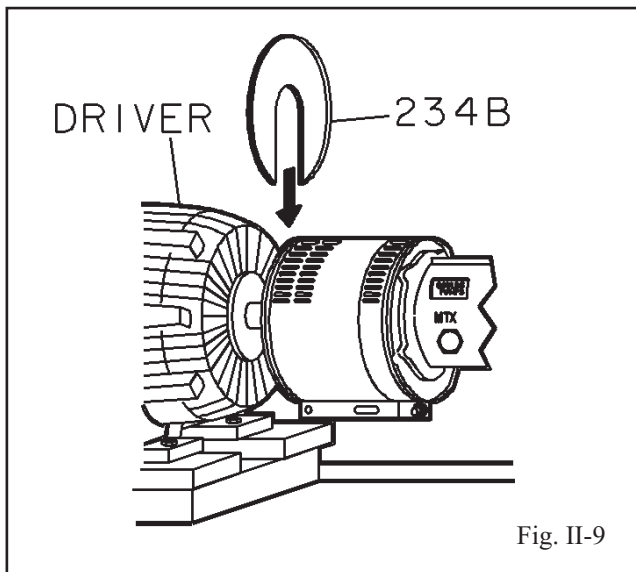

Fig. II-9
- Place end plate (driver end) over motor shaft as shown in Fig. II-9. Locate the end plate in the annular groove at the rear of the coupling guard half (driver end) and secure with a bolt, nut, and two (2) washers through the round hole at the rear of the guard half. Finger tighten only.
2. Remove nut, bolt, and washers from coupling guard half (driver end), and remove end plate. Fig. II-9.